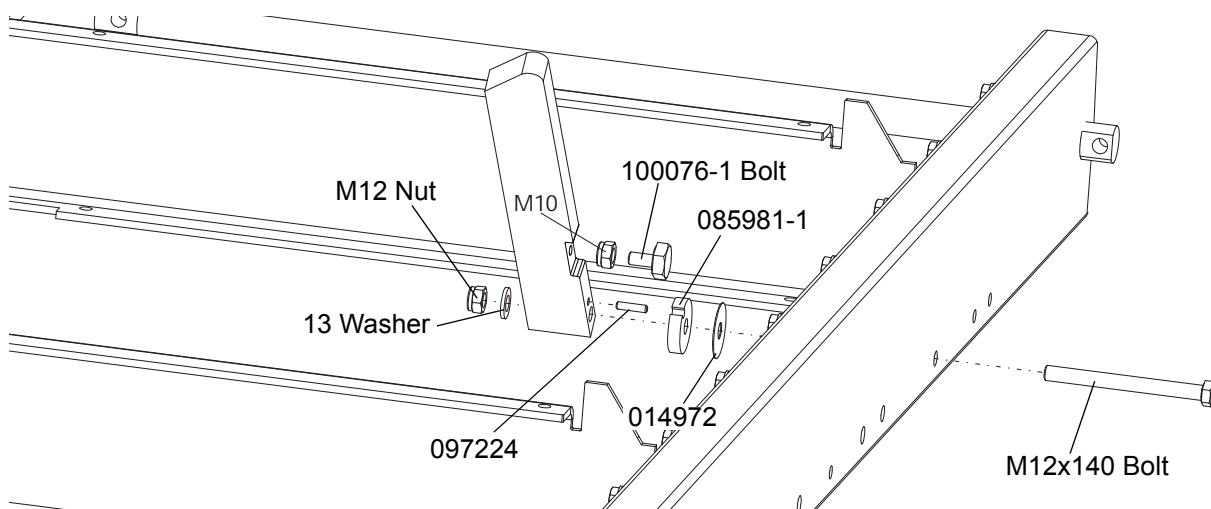

FIG. 2-7
- Install the log side supports as shown in Figure 2-7. Tighten the nuts so that the side supports can be moved with little resistance. See Section 6.11.
See Figure 2-7.